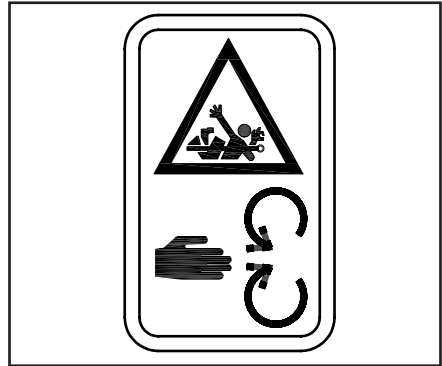

Fig. 2.26.2
**29.3 580A1607 (Fig.2.26.2)****Danger of entanglement**